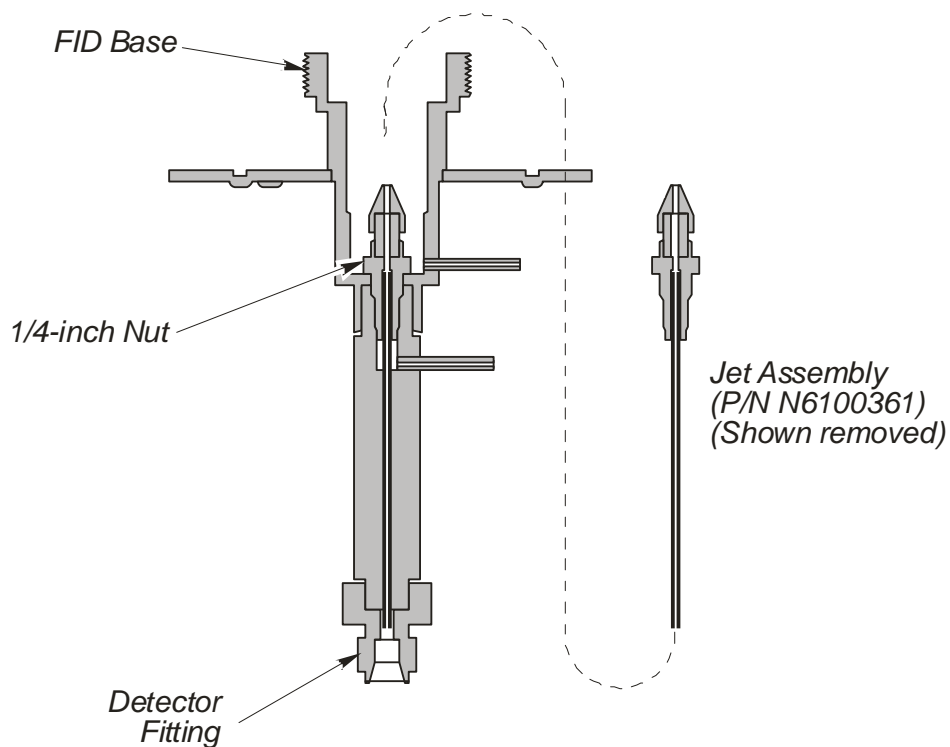

Figure 59. Cross section view of the FID.
3. Remove the old O-ring (shown in Figure 59) from the FID collector and insert a new O-ring (P/N 09902143).